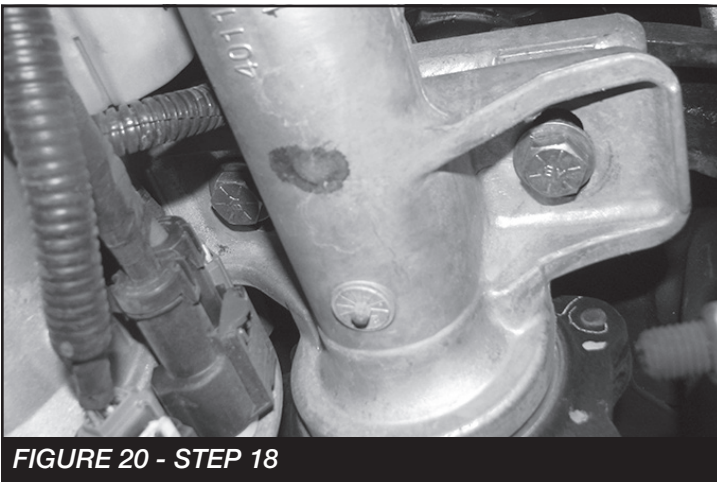

FIGURE 20 - STEP 18
18. Using the passenger side differential mount, two 1/2"-13 x 4" bolts, nuts and washers, mount the passenger side of the differential. **NOTE: Run the bolts from the bottom up.** Torque the 1/2" bolts to 90 ft-lbs and the 12mm bolts to 65 ft-lbs. **SEE FIGURE 20**